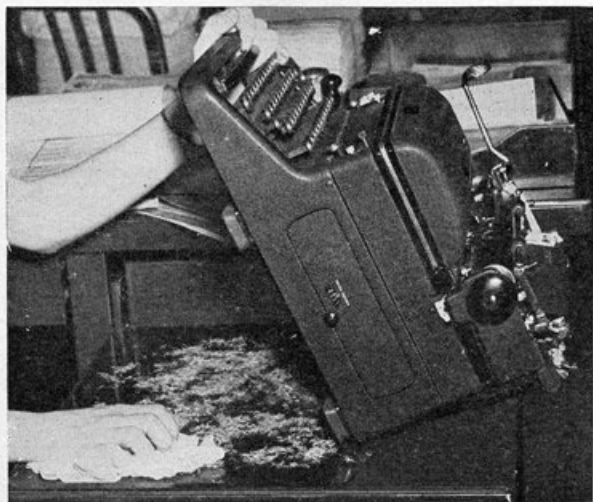

Figure 5.—Wiping under and around the machine.
3. **CLEAN THE WORK SURFACE.**—With the typewriter tipped up and held firmly, wipe off the surface of the desk or table (see fig. 5). If your typewriter is fastened down, place a piece of paper under it while cleaning. Then remove the paper with the refuse and wipe around the machine.